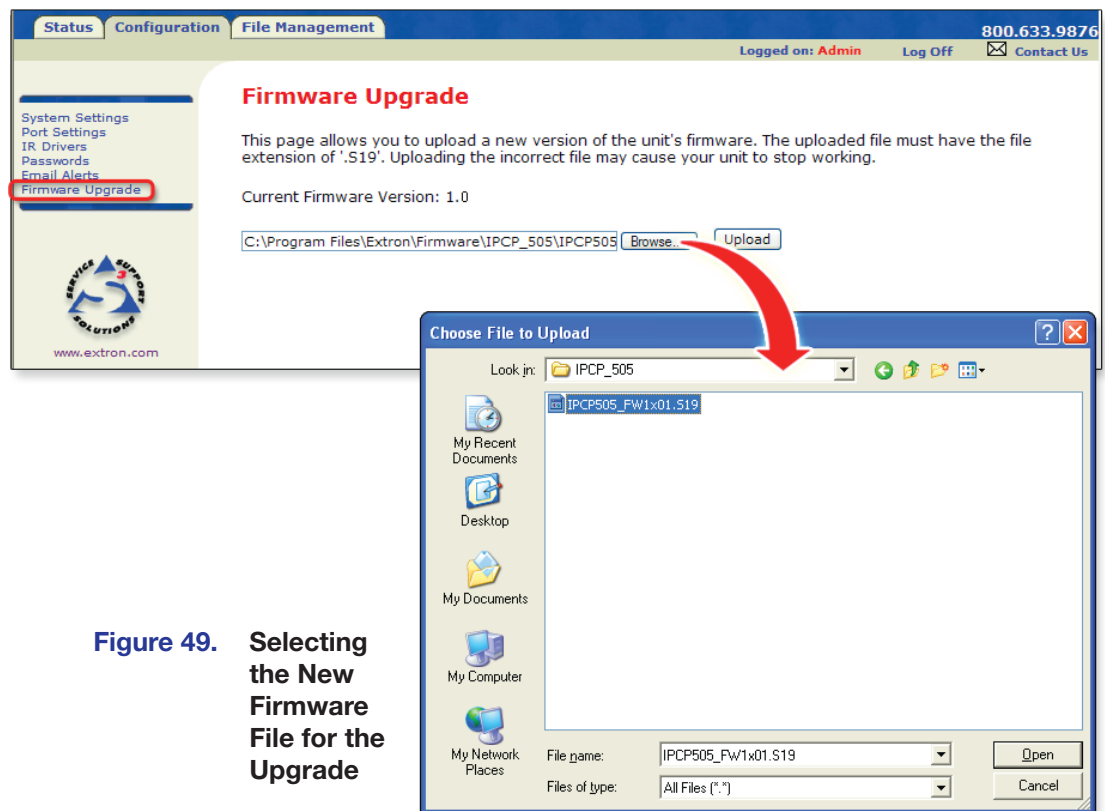

Figure 49. Selecting the New Firmware File for the Upgrade
5. Click the **Browse** button. The **Choose File to Upload** dialog box opens (see figure 49).